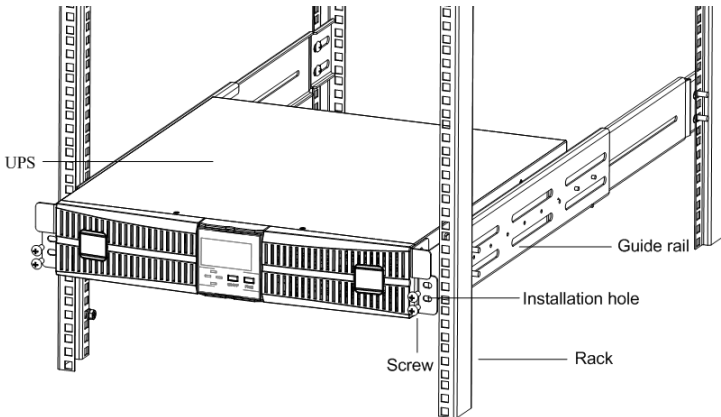

Fig.4-8 Installing UPS
2. Place the UPS onto the guide rail in the rack, and push it completely into the rack along the guide rail (it is prohibited to move the UPS through the brackets). And fix the UPS onto the rack using the screws through installation hole on the bracket, as shown in Fig.4-8.